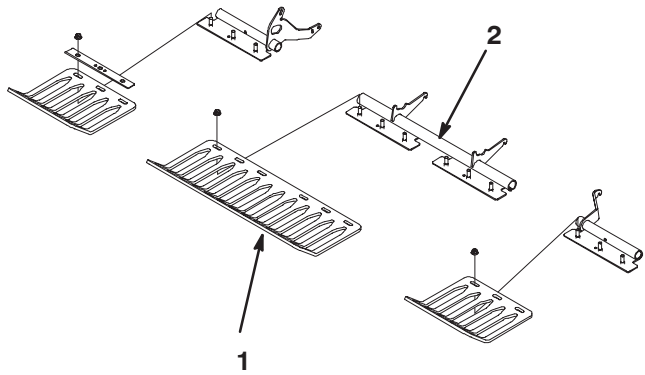

Figure 24
3. Loosely install the turf guards to the turf guard brackets with (4) turf guard clamps and (12) flange nuts (Fig. 24). Do not tighten the fasteners.
Note: The turf guard clamps and flange nuts are shipped secured to the turf guard brackets (Fig. 24).